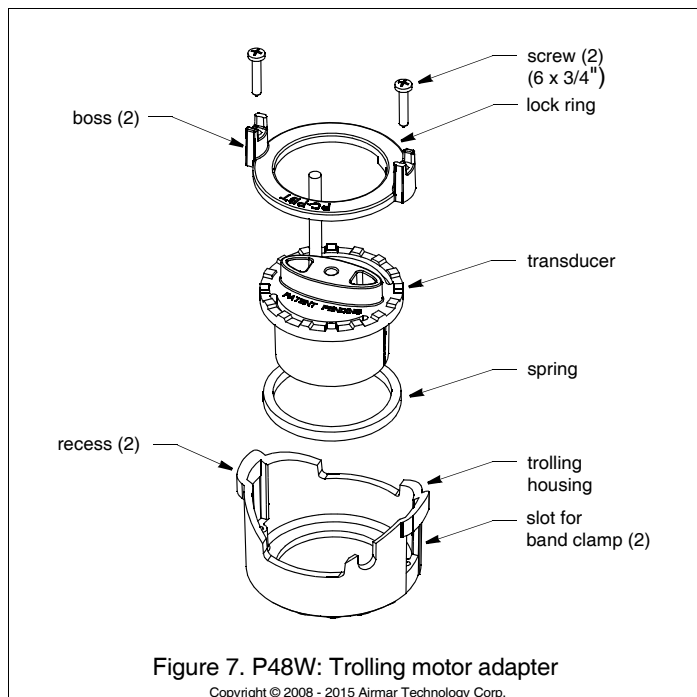

Figure 7. P48W: Trolling motor adapter
2. Insert the spring and transducer in the trolling housing (see Figure 7).
2. Loosen the screw in the band clamp so that one end of the band is free. Pass the free end through the two slots in the trolling housing (see Figure 7).
Trolling Motor Kit	33-653-02 (see Figure 7)